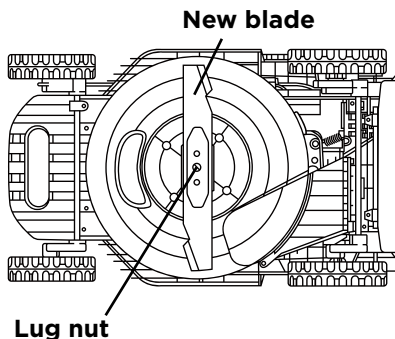

Fig. 12
- e. Fit the new blade on the same position and secure with the original lug nut (Fig. 12)